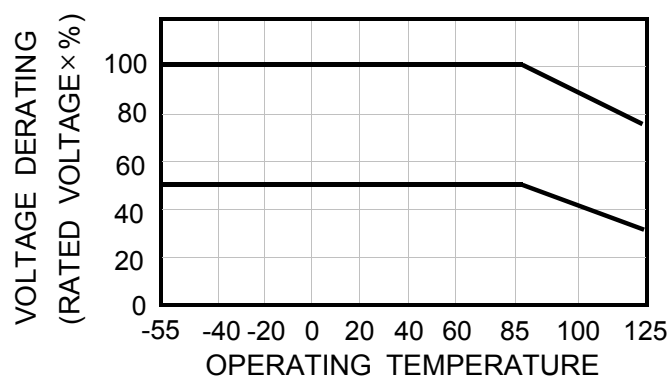

Fig. 3
► When the tantalum capacitors are to be used at an ambient temperature of higher than 85°C, the recommended operating range shown in Fig. 3 should not be exceeded.